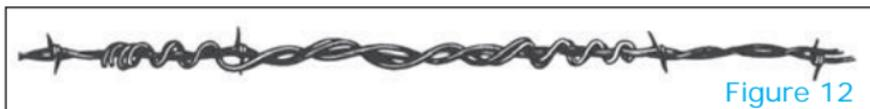

Figure 12
3. If you start with less than a full reel and run out, carefully splice a new strand onto the old by wrapping each end onto the other. Wrap each end 5-8 times. (Figure 12) Commercial crimp sleeves are available and work great for this application.